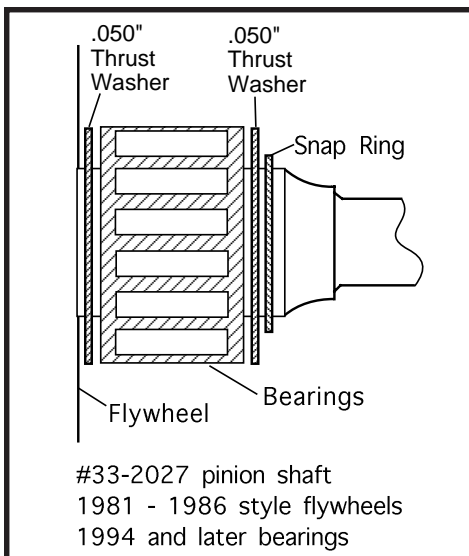

Figure 8
2. 1981 to 1986 style stock flywheels - Two .050" thrust washers are normally used. Typical arrangement - .050" washer, bearing cage, .050" washer, and snap ring. **See Figure 8.**